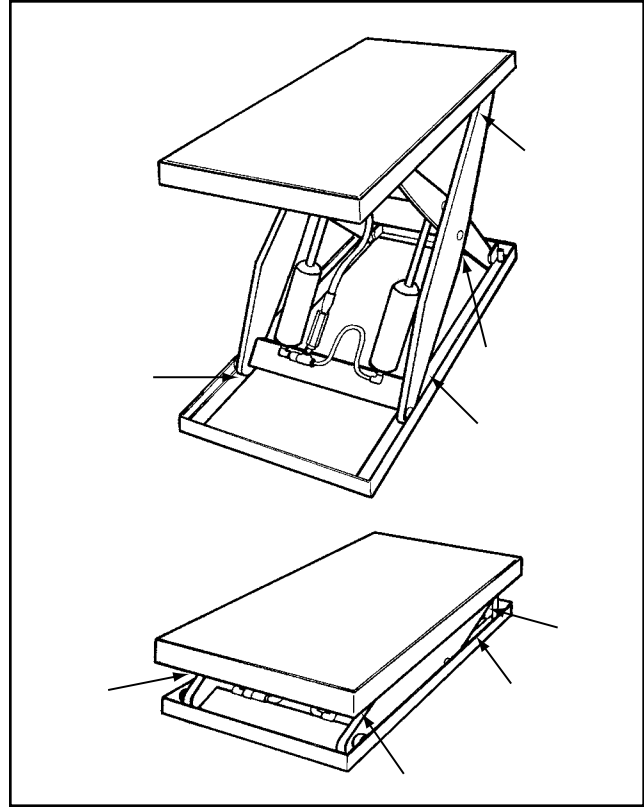

Figure 6 – Pinch Points
As the lift table moves up and down, “pinch points” are created at the places shown in Figure 6. If you are standing too close to the lift when it is moving, your arm or leg may be caught in the moving parts, and you may be hurt. Stay away from the pinch points when the lift is moving.
As the lift table moves up and down, “pinch points” are created as shown in Figure 6. Stay away from these pinch points! Part of your body or clothing may become caught, and you may be hurt.
- **As the lift moves up and down, “pinch points” are formed as shown in Figure 6. Keep hands, feet, and loose clothing away from these pinch points. If your hand or arm or a part of your clothing is caught, you may be hurt.**